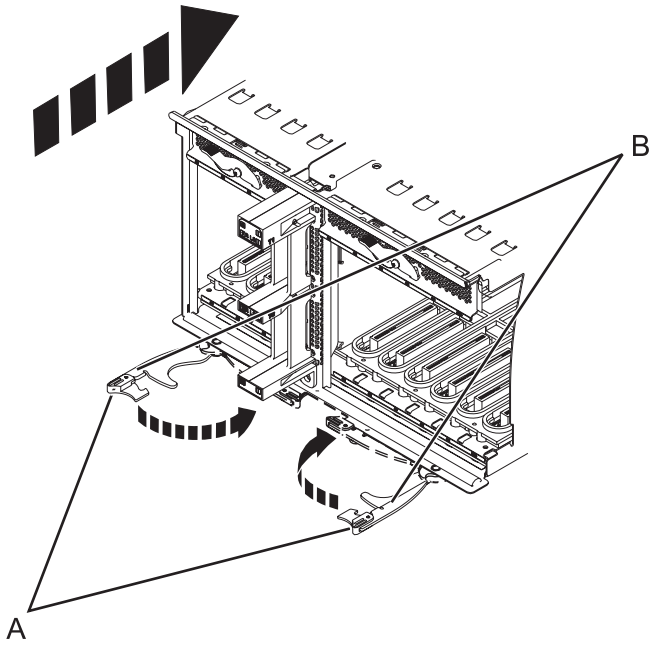

Figure 61. Install the I/O system board on a rack-mounted model
- Insert the I/O system board firmly into the server, as shown in Figure 61 on page 81.
- Secure the I/O system board with the locking tabs (A), as shown in Figure 61 on page 81.